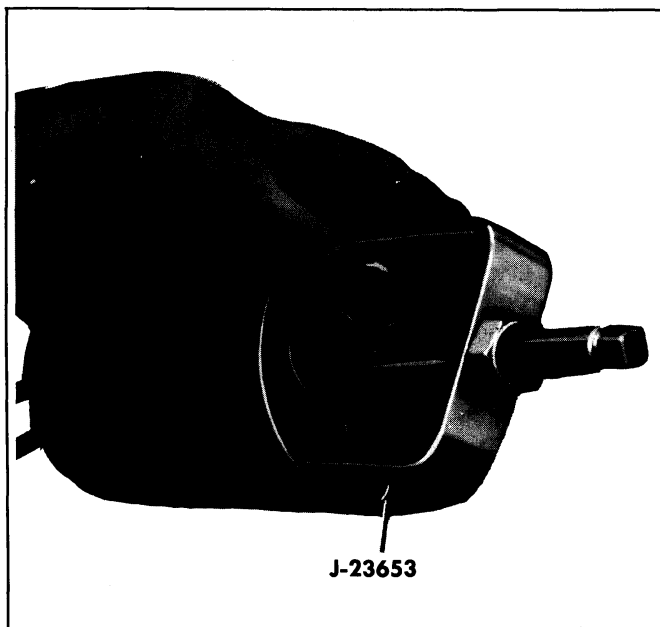

Fig. 3B-66—Removing Carrier and Lock Plate Retaining Ring Using Tool J-23653
5. Place a 5/16" nut under each leg of the tool as shown in Figure 3B-66.